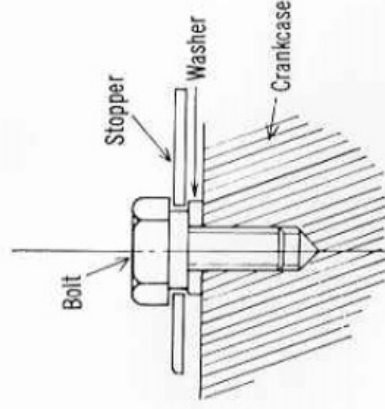

Fig. 8-3-19
14. Don't forget to place the **stopper washer** beneath the gear shifting cam stopper, as it is easy to overlook. Make sure the **stopper bolt** is inserted up to its head into the hole on the cam stopper. (Fig. 8-3-19)